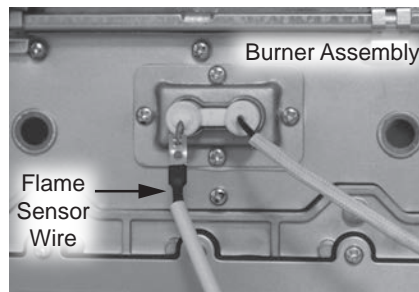

Figure 81 - Removing flame sensor wire
- 5 Locate flame sensor wire attached to burner assembly. Disconnect wire and place aside for easy access to the gas manifold. See Figure 81.
- 34 Locate the flame sensor previously disconnected from burner assembly in **Step 5**. Connect flame sensor wire. See Figure 81.